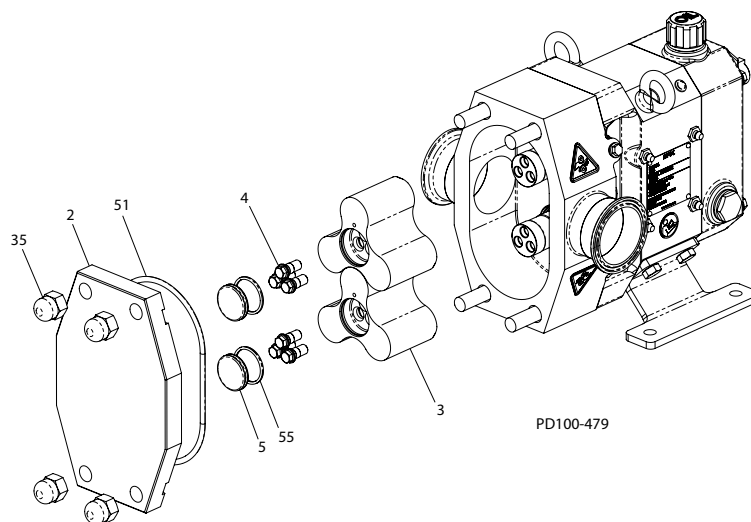

Figure 30 - Pump Cover and Rotor Removal
Table 4: Callout table for Figure 30
1. Remove the cover acorn nuts (Figure 30, item 35).
2. Remove the cover (item 2). Cavities are provided on the mounting surface of the cover to permit removing the cover with the aid of a screwdriver.
3. Remove and inspect the o-ring (item 51).
1. Remove the screw caps (Figure 30, item 5) from the rotors (item 3). Remove and inspect the o-rings (item 55).
2. Remove the rotor lug screws (item 4). To prevent the rotors from turning while loosening (or tightening) the rotor lug screws, block the rotors following the guidelines provided in the "Rotor Blocking" section on page 26.
3. Remove the rotors (Figure 30, item 3). If the rotors cannot be removed by hand, use a twisting motion to break them free. If unsuccessful, tap the body forward using a mallet to loosen the rotors.